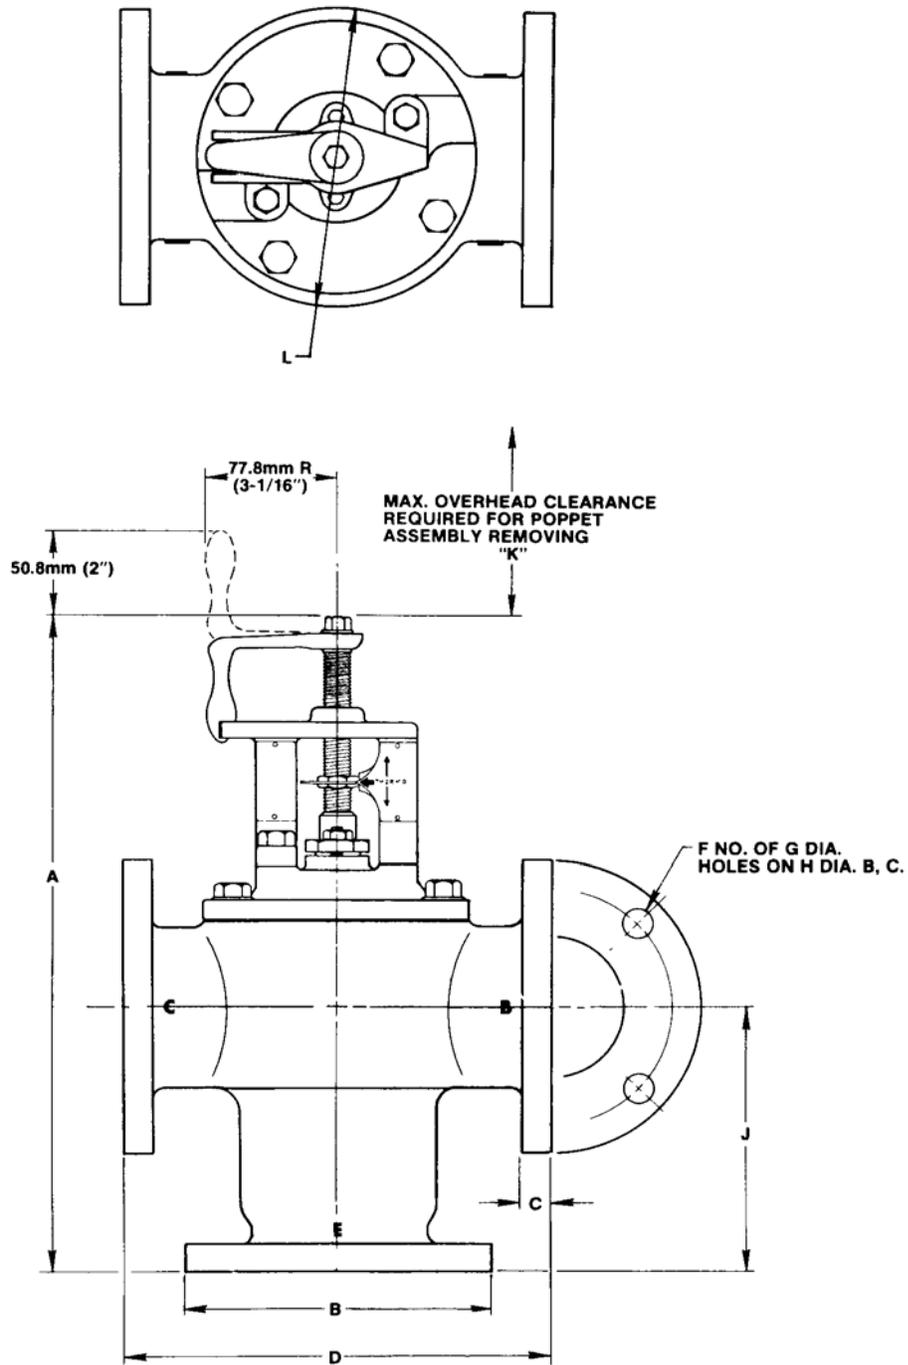

Figure 1
**DIMENSIONS** ..... See Figure 1.